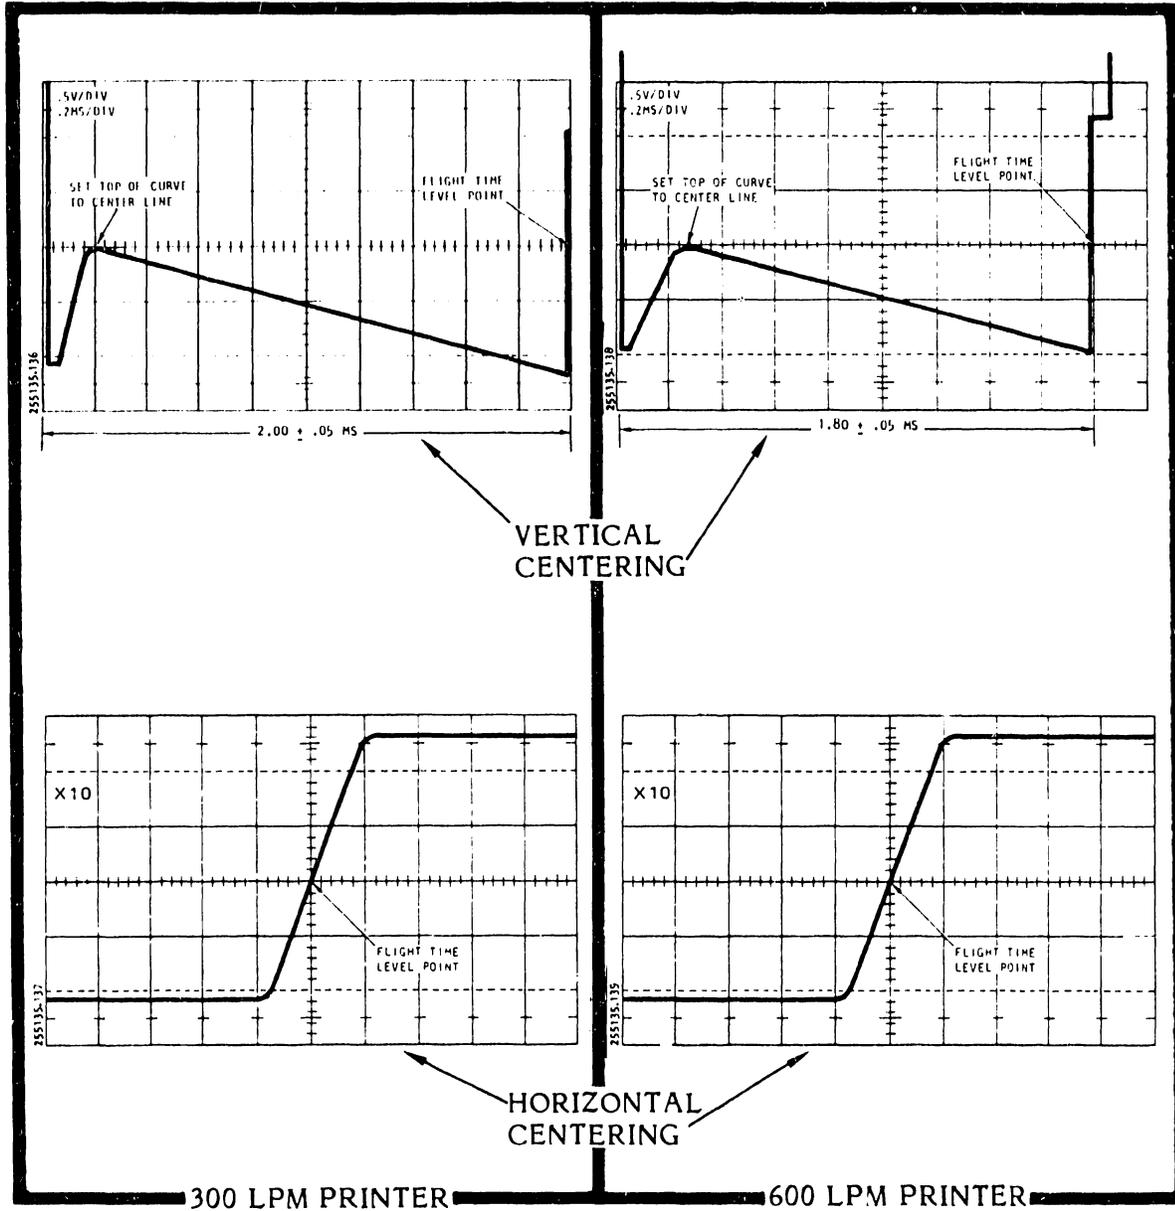

Figure 3-40. Hammer Flight Time Adjustment, Waveforms
- k. Set the oscilloscope vertical centering so the top part of the curve touches the center line. Then set the oscilloscope X10 magnifier to on and move the horizontal centering until the flight lead point reaches the center of the screen (see figure 3-40).